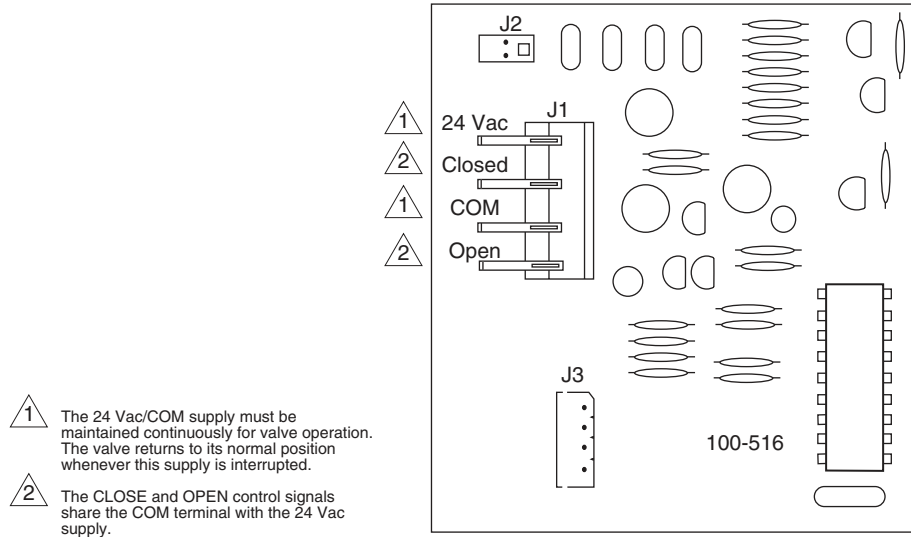

Figure-3 Typical Wiring of Three-Wire Floating Spring Return Valves with Time-Out.
1. Remove the cover from the actuator, then connect the power and control wiring to the terminal block (Figure-1 and Figure-3).